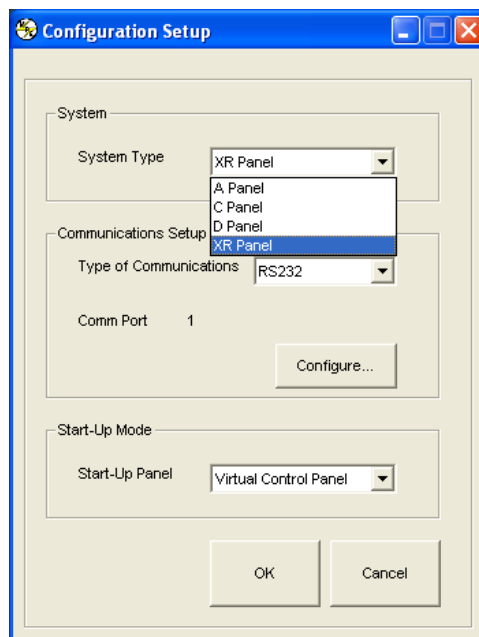

Figure 5.1 Configuration setup
2. Communications interface: RS232, RS485, optional GPIB (IEEE-488), optional TCP/IP (Ethernet), simulated, or others depending on future developments. Figure 5.1 displays the Applications Setup Window. Address requirements are: